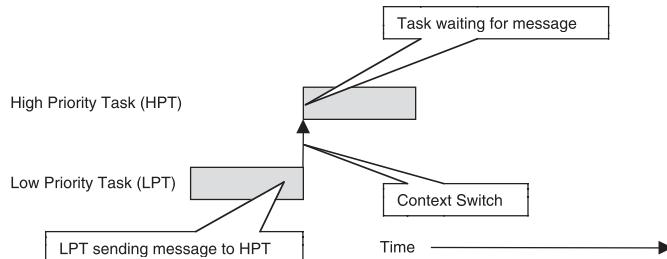

Figure 15-4: Scheduling and Context Switching because of Task.
2. A task sends a message to another task using a service provided by the kernel. If the receiving task is more important than the sending task then the kernel will switch to the receiving task (see Figure 15-4) otherwise, the sending task continues execution.